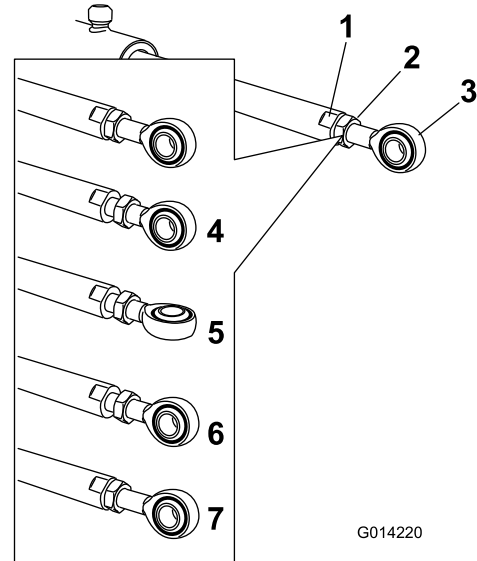

Figure 14
- Use a wrench on the flat sides of the actuator rod to immobilize it, then loosen the jam nut to allow the eyelet rod to be manipulated (Figure 14).
- Turn the eyelet rod in the actuator rod to shorten or lengthen the extended actuator to the desired position (Figure 14).